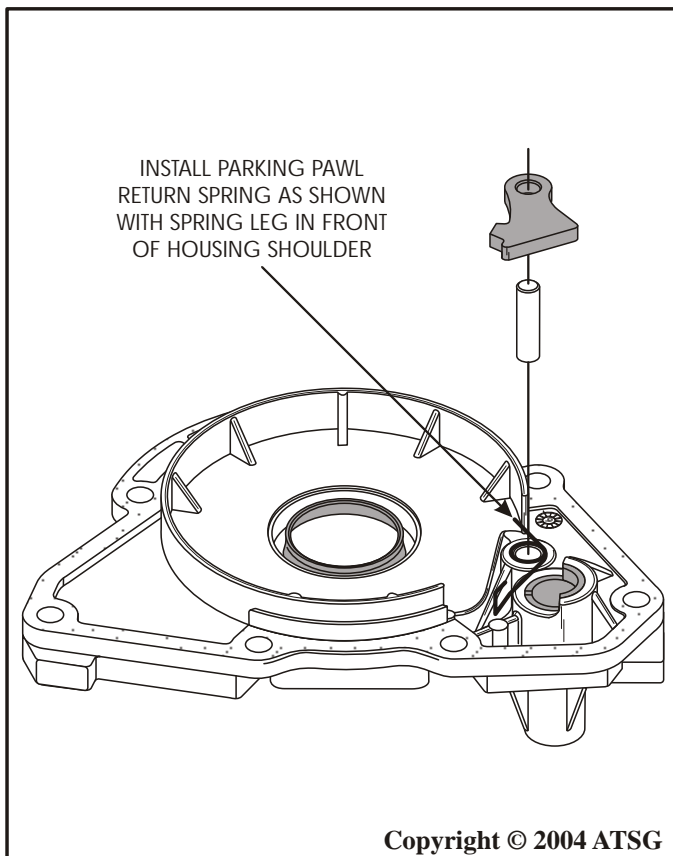

Figure 126
6. Install the parking pawl return spring onto the adapter housing, with the leg of the return spring in front of housing shoulder, as shown in Figure 126.